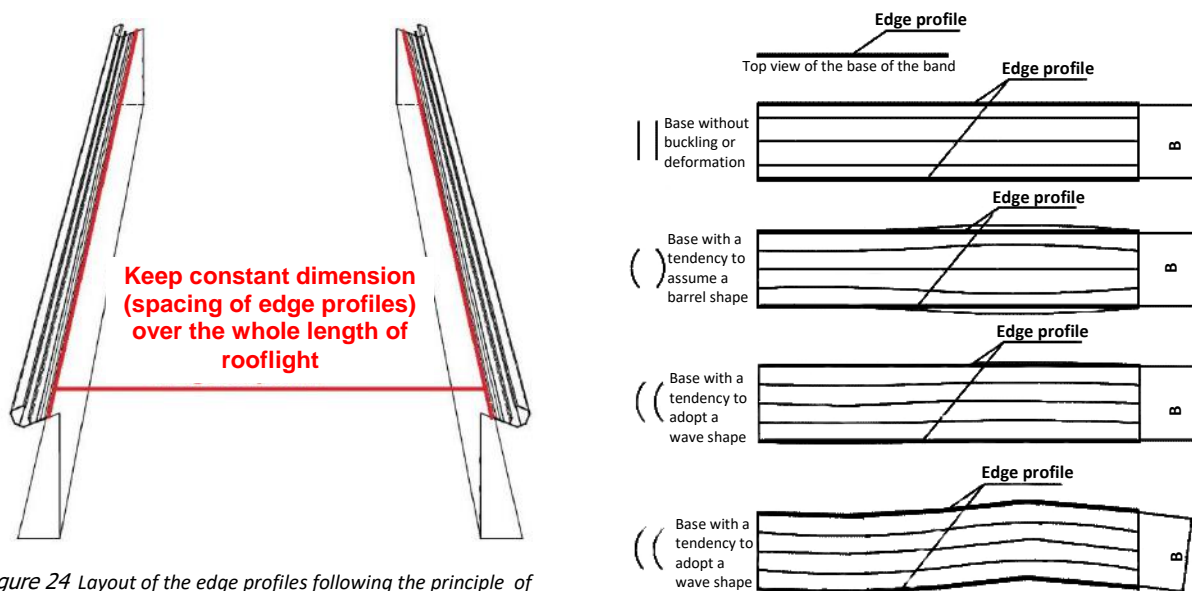
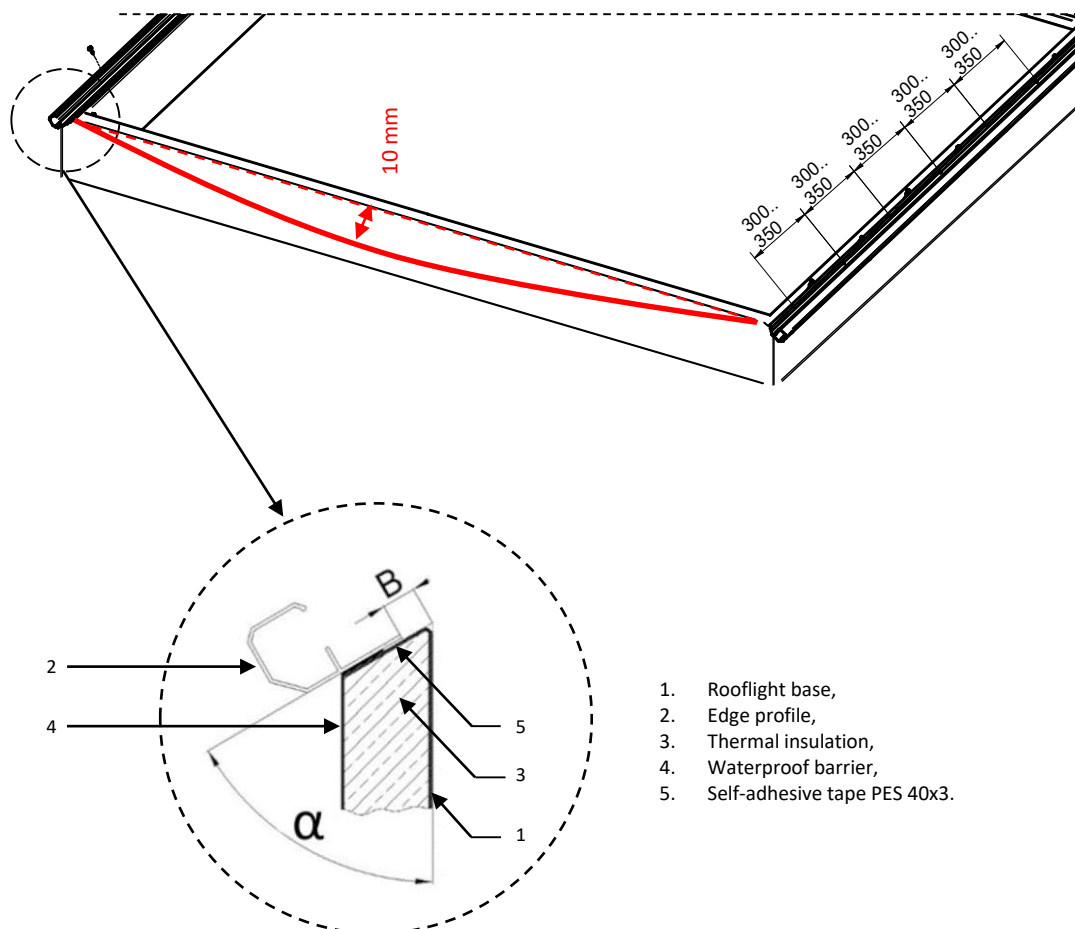

Figure 24 Layout of the edge profiles following the principle of parallel orientation
Figure 25 Installation of edge profiles according to the attachment to the installation manual
- Apply self-adhesive tape PES 40x3 to the assembled and insulated base, and then fix the edge profiles using self-drilling screws  $\varnothing$  6.3x32 mm keeping the distance between the screws 300-350 mm, and positioning them so that at least 2 screws fall out between the holes for the screws tightening the pressure profiles. The position of the edge profile in relation to the base should be as shown in (Figure 25 Installation of edge profiles according to the attachment to the installation manual). The correct B dimension can be obtained by laying the edge profiles parallel to each other along the entire length. The B dimension can be obtained by fixing the position of the edge profiles with the tympanum panel. It is very important that the edge profiles are arranged parallel to each other i.e. the distance between them is constant (Figure 24 Layout of the edge profiles following the principle of parallel orientation).